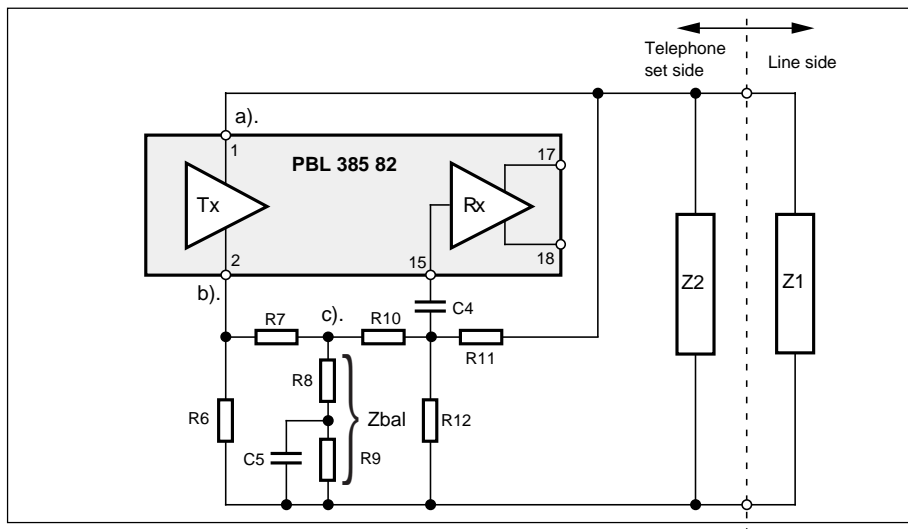

Figure 10. The side tone suppression principle.
1. Set the circuit impedance to the line, either 600Ω or complex. (R3 and C1). C1 should be big enough to give low impedance compared with R3 in the telephone speech frequency band. Too large C1 will make the start-up slow. See fig. 10.
A short guidance for understanding the side tone principle. (See fig. 10.)
internal current consumption (about 1 mA). Care must be taken when connecting external load to pin 4 in order not to exceed the $\approx 700 \mu A$ limit. Should this happen, it would result in an inoperative speech funktion. This circuit can not retrigger before the voltage level at C1 drops below 2V or the line voltage is below 1V. See fig. 10.